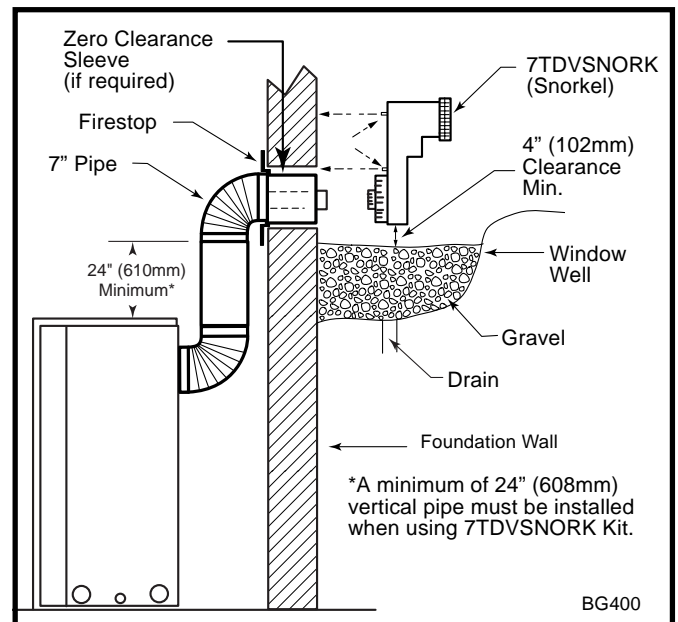

Fig. 28 Below grade installation.
2. Remove soil to a depth of approximately 16" (406mm) below base of snorkel. Install window well (not supplied). Refill hole with 12" (305mm) of coarse gravel leaving a clearance of approximately 4" (102mm) below snorkel. (Fig. 28)
7. Level the soil to maintain a 4" (102mm) clearance below snorkel. (Fig. 28)